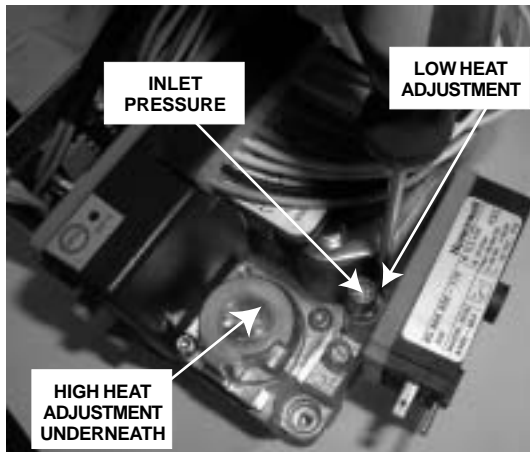

Fig. 18
- Check and adjust if necessary the valve **Inlet** pressure to 20.0 mbar (G20) or 25.0 mbar for Groningue (G25) or 37.0 mbar for propane (G31) after gas burner ignition.(figure 18)